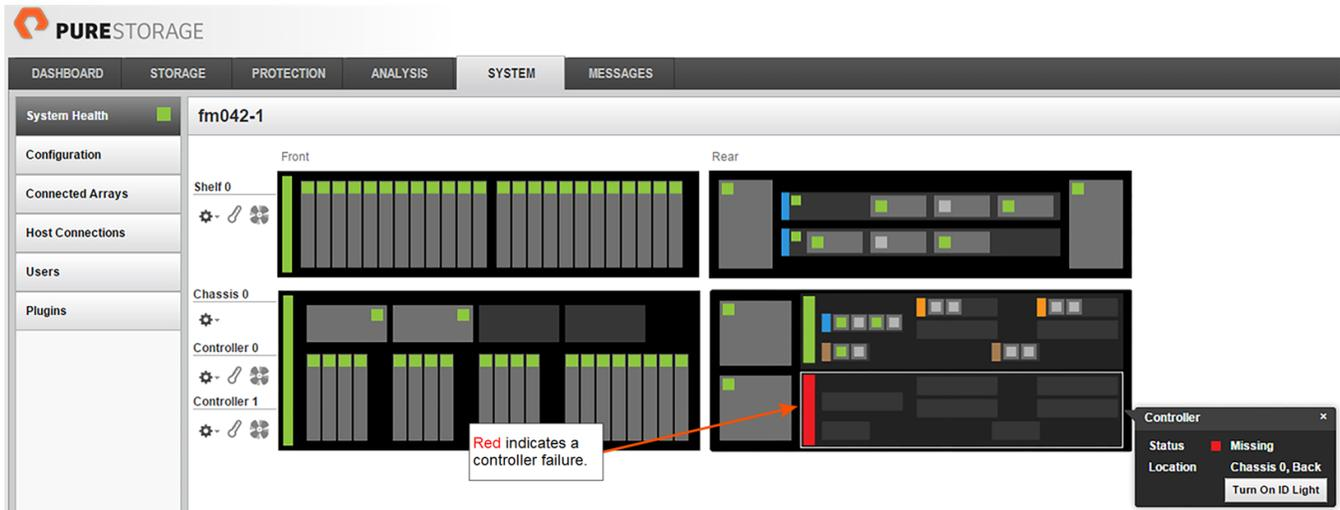

Figure 7-1. GUI Display Showing Failed Controller
- In the GUI, select **SYSTEM > System Health**. Red rectangles on the controller icon and in the corresponding pop-up indicate controller failure (see Figure 7-1).